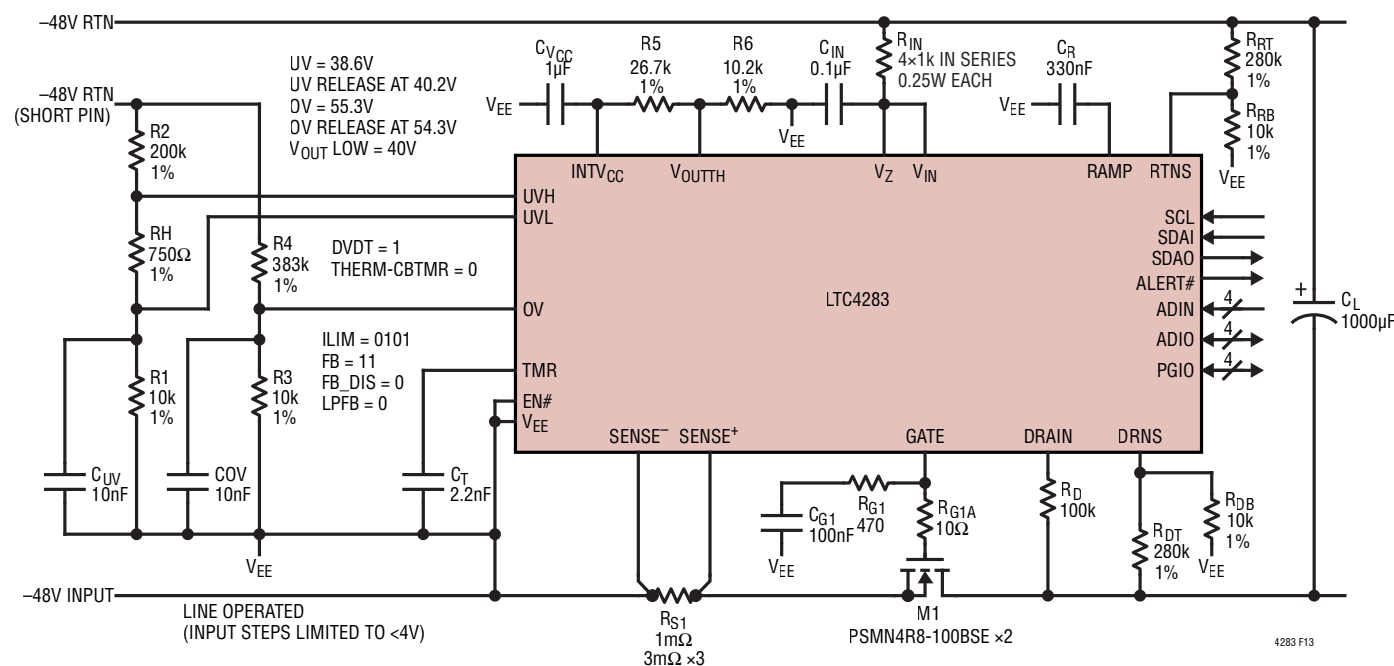

Figure 13. -48V/800W Hot Swap Controller with dV/dt Inrush Control
The second example is a line operated -48V system with supply tolerance of 10% (-43.2V to -52.8V) and maximum load power of 800W as shown in Figure 13. The load capacitance is specified as $C_L = 1000\mu\text{F}$.
INTV_{CC} (5V) and V_{EE} . The divider ratio is $5\text{V}/1.379\text{V} = 3.63$. A divider of $26.7\text{k}\Omega$ and $10.2\text{k}\Omega$ as shown Figure 13 gives a close enough ratio of 3.62.
Although it is possible to use a single, four-resistor (or three-resistor if UVH and UVL connected together) divider as shown in Example 1, Step 7, two independent dividers with 2 (OV) or 2 to 3 (UV) resistors in each divider make it easier to make non-interactive changes at a later time. The two dividers as shown in Figure 13 gives UV shutdown at 38.6V, UV release at 40.2V, OV shutdown at 55.3V and OV release at 54.3V, which covers the full input voltage range of this example. 10nF capacitors filter out noises on UVL and OV.